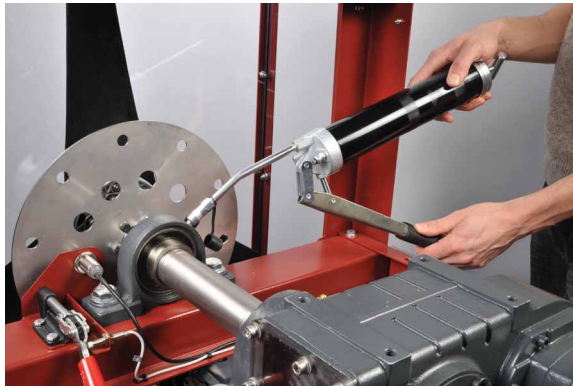

Figure 2-45. Inserting grease gun into the pillow block nipple.
50. Wipe the first pillow block grease fitting with a clean rag to prevent dirt from entering the bearing. Insert your loaded gun coupler into the fitting (Figure 2-45).